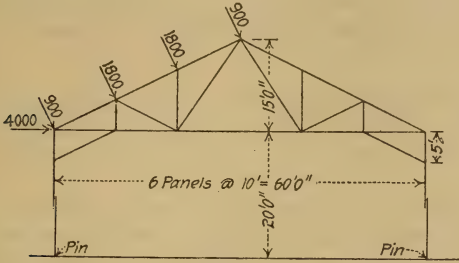

FIG. 7.
3. Determine stresses in frame shown above (Fig. 7) for loading given. The column is a stiff member from the pin at the ground level to the bottom chord of the roof truss.